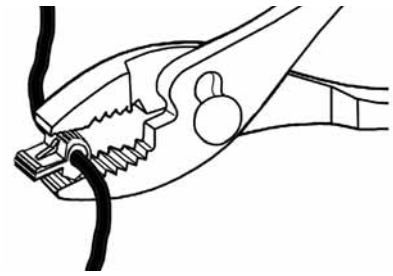

FIGURE 46
- 1.) USING PLIERS, ATTACH ONE SUPPLIED 3M CRIMP LOCK TO THE 12 VDC POWER SOURCE BLUE/BLACK WIRE AND ANOTHER ONE TO THE BLACK WIRE APPROXIMATELY 10 TO 20 MM FROM THE HARNESS BREAKOUT. PLACING THE 3M CRIMPS IN THIS LOCATION WILL FACILITATE RE-ASSEMBLY. (SEE FIGURES 46 AND 47)